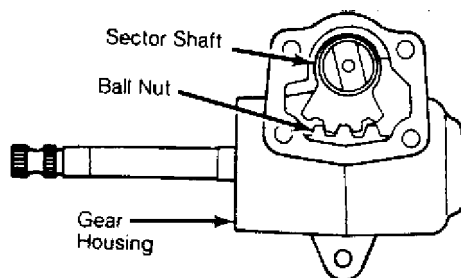

Fig. 4: Aligning Sector Shaft to Ball Nut
1) Check clearance between sector shaft adjusting screw and sector shaft. Insert shim so that final clearance will be .004" (.1 mm) or less. Insert sector shaft with ball nut. See Fig. 4.